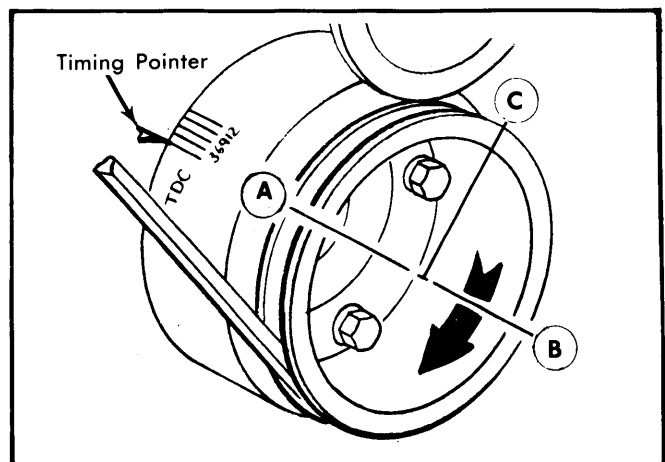

Fig. 9 Crankshaft Positions for Adjusting Hydraulic Valve Lifters
4.2L & 5.0L Engines — 1) With No. 1 piston on TDC at end of compression stroke (position A in Fig. 9), check valve clearance on the following valves: No. 1 intake, No. 1 exhaust, No. 7 intake, No. 5 exhaust, No. 8 intake, No. 4 exhaust.
2) Rotate crankshaft to position B (see Fig. 9) by rotating crankshaft 180° clockwise from TDC position. Check clearance on the following valves: No. 5 intake, No. 2 exhaust, No. 4 intake, No. 6 exhaust.
3) Rotate crankshaft to position C (see Fig. 9) by rotating crankshaft 270° clockwise from position B. Check clearance on the following valves: No. 2 intake, No. 7 exhaust, No. 3 intake, No. 3 exhaust, No. 6 intake, No. 8 exhaust.
5.8L (W) Engine - 1) With No. 1 piston on TDC at end of compressionstroke (position A in Fig. 9), check valve clearance on the following valves: No. 1 intake, No. 1 exhaust, No. 4 intake, No. 4 exhaust, No. 8 intake, No. 7 exhaust.
2) Rotate crankshaft to position B (see Fig. 9) by rotating crankshaft 180° clockwise from the TDC position. Check clearance on the following valves: No. 3 intake, No. 2 exhaust, No. 7 intake, No. 6 exhaust.
3) Rotate crankshaft to position C (see Fig. 9) by rotating crankshaft 270° clockwise from position B. Check clearance on the following valves: No. 2 intake, No. 4 exhaust, No. 5 intake, No. 5 exhaust, No. 6 intake, No. 8 exhaust.